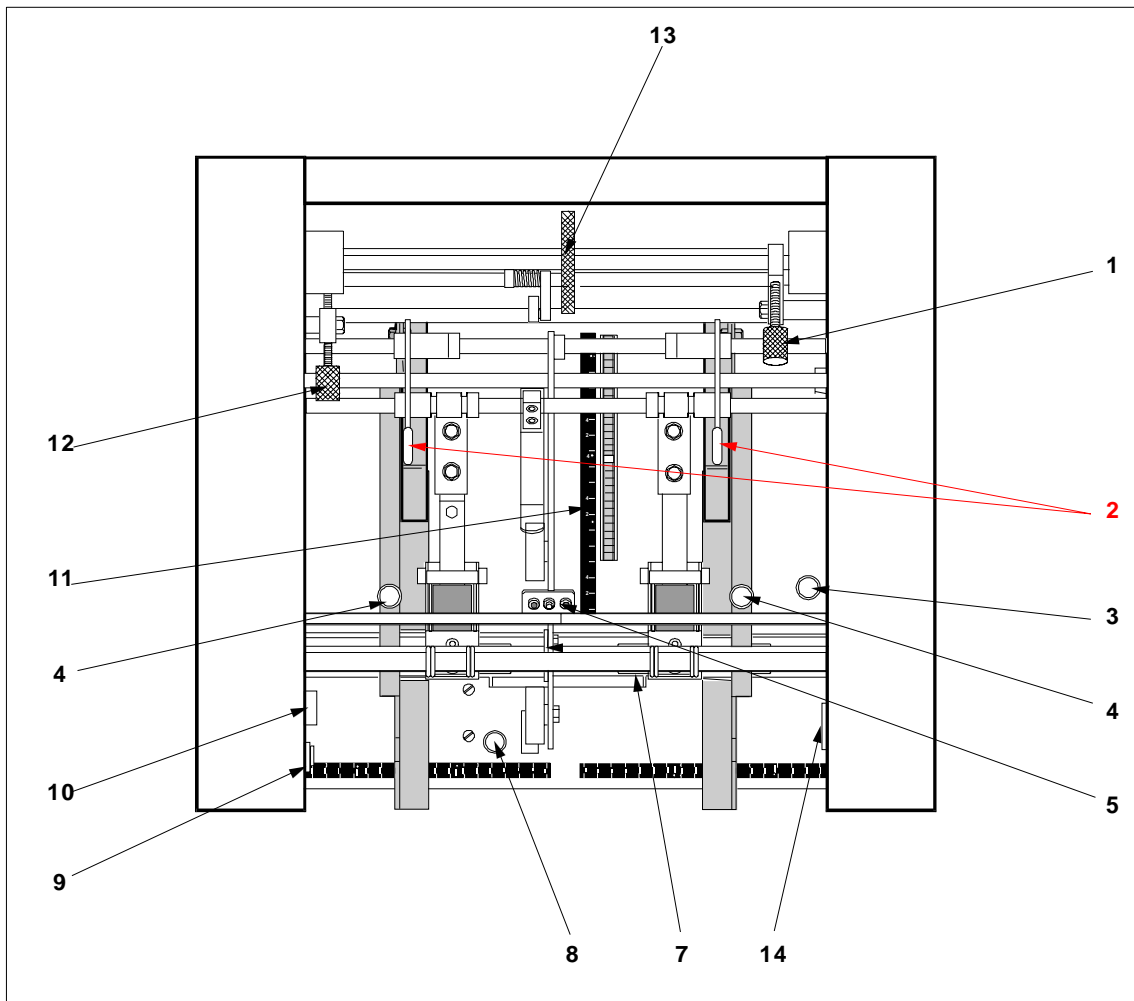

Figure 2 - Control layout
5. When making books, one need only fit the conveyor wheels (part no.6.13) and make sure that the divert plate (part no. 3.71) shown in figure 2 is pushed forward.